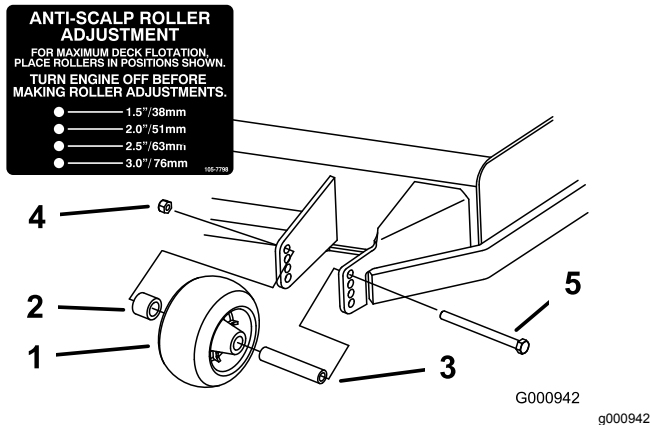
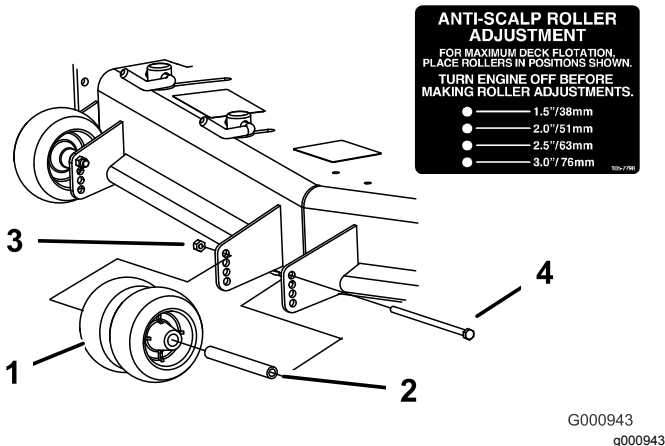
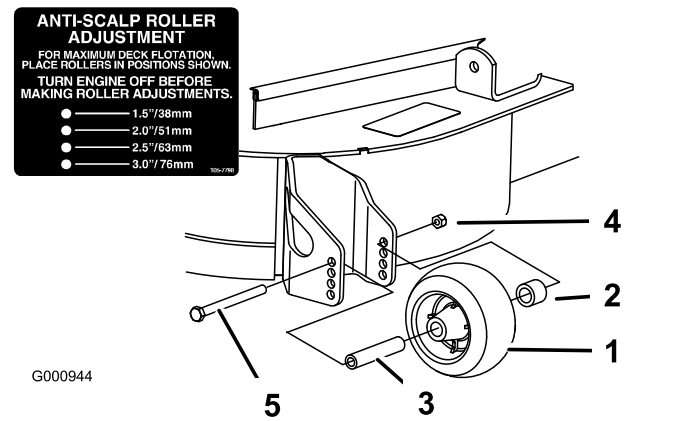

Figure 29
Figure 30
Figure 31
3. Adjust the anti-scalp rollers as shown in Figure 29, Figure 30, and Figure 31.